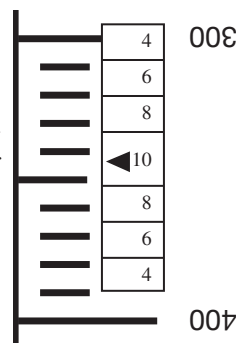

Figure 4.
- g. The volume computed from $PV = nRT$ above is in liters (L). Convert this volume into milliliters (mL). *Hint:* This just involves moving the decimal point. (Now, back to the procedure!)
14. Take the clear plastic grading scale and tape it in position on the graduated cylinder so that the center arrow is aligned with the volume (mL) of gas you calculated above (Remember, the graduate is upside-down). For example if you calculated the volume to be 342 mL, the grading scale should be positioned as shown in Figure 4. Make sure this is done accurately; your grade depends on it. After the reaction is finished, if the volume ends up in the “10” region, you will score a perfect 10 out of 10. If it ends up in one of the “8” regions, your score will be 8 out of 10. If it appears to be on the line between “8” and “10,” your score will be 9 out of 10. The teacher makes the call on this!